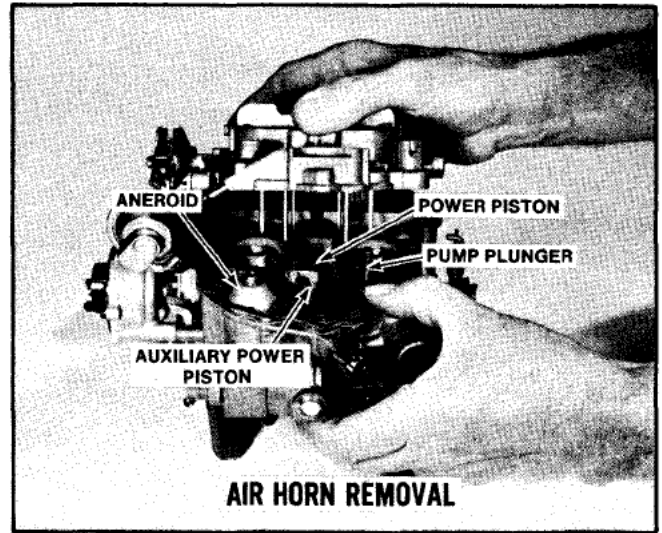

Figure 47 Air Horn Removal
10. Remove air horn from float bowl by lifting straight up (Figure 47). On 4MV-4MC models, rotate air horn to remove vacuum break rod from dashpot lever on end of the air valve shaft. Air horn gasket should remain on bowl for removal later.